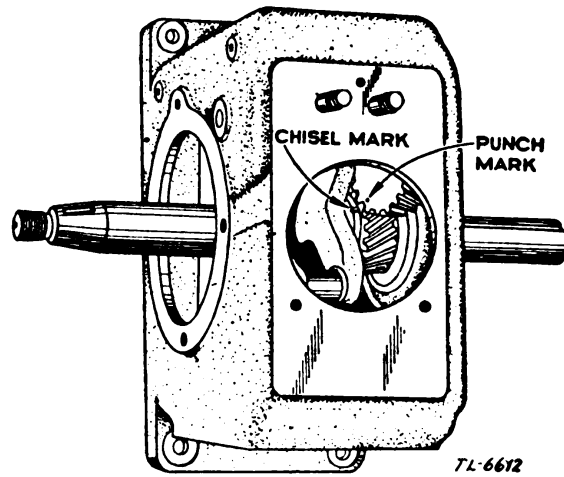

FIGURE 16. Valve timing.
**c. Valve adjustments.** (1) To check valve clearance, remove the valve cover plate. The correct clearance on both the exhaust valve and the intake valve is 0.020 inch. These clearances should be checked and adjusted when the motor is cold. Tappet clearance is adjusted by grinding the required amount from the ends of the valve stems. On some models, the clearance is obtained by loosening the tappet lock nut and adjusting the tappet screw. The ends of the stems must be square with the stem proper.
(2) To remove valves, remove the cylinder head, and, if the engine is not dismantled, drain the oil from the crankcase. Invert the cylinder. Compress the spring with the valve spring compressor; with the end of the screw driver, push out the split collars, and release the spring compressor. Tilt the cylinder back far enough to allow the valve to drop, permitting its stem to clear the spring. Pry the spring out with the end of a screw driver.
(3) To replace valves and valve springs, compress the spring with the valve spring compressor. Turn the tool to the inverted position, with the collar retainer washer on top. Drop the split collars in place in the retainer washer, one at a time. When the first half of each split collar has been placed in the retainer washer, push it around to the back of the valve stem to facilitate placing the second half. If the valves or valve seats are pitted or otherwise in need of grinding, use a fine grade of valve-grinding compound. Be extremely careful not to get any of the grinding compound into other parts of the engine. The timing of the valves is taken care of by the meshing of the camshaft gear with the gear on the crankshaft. These gears are properly meshed when the mark on the camshaft gear is in line with the mark on the crankshaft collar (fig. 16).